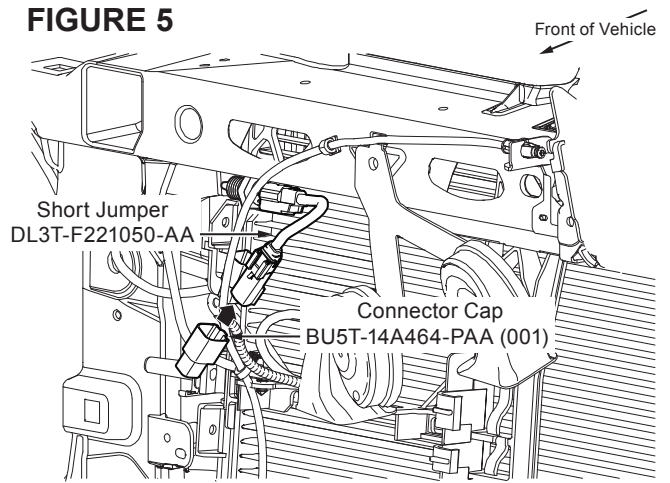

FIGURE 6
6. Plug long jumper (DL3T-F221095-AA) into 12A581 wire harness pigtail (DL3T-F220090-AA) and route jumper along hood release cable (securing with 3 small PIA C-CLIPS). **See Figure 6.**